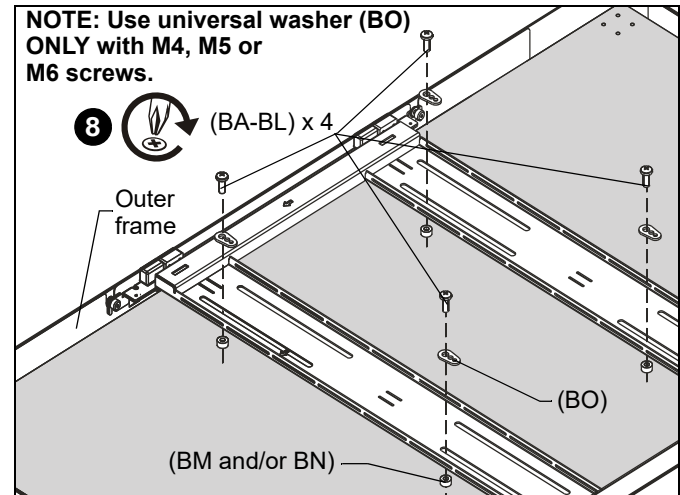

Figure 8
- Place hinged frame onto back of flat panel and match the VESA pattern on flat panel to the hinged frame mounting slots. Also match the threaded studs in outer frame to the hooks on the hinged frame. (See Figure 8)
- Use selected screws (BA-BL), washers (BO--if required), and spacers (BM, BN--if required), to connect hinged frame to back of flat panel. (See Figure 8)